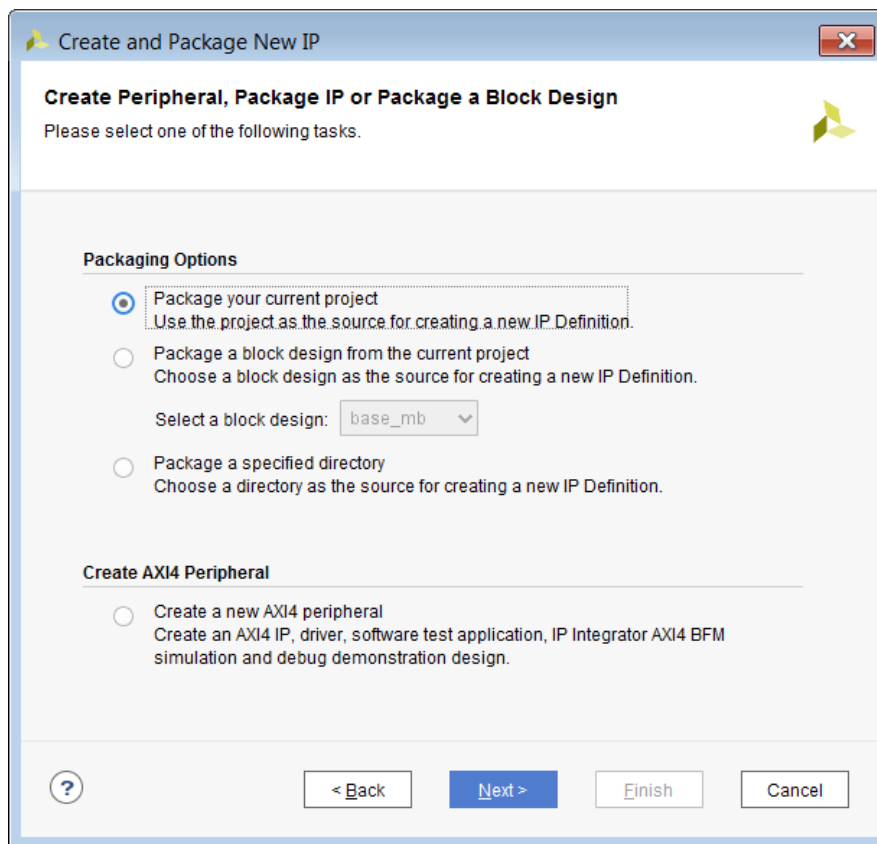

Figure 3-3: Create and Package New IP Wizard: Package Your Current Project
2. In the Package Your Current Project dialog box, (Figure 3-3), make your selections from the following options: